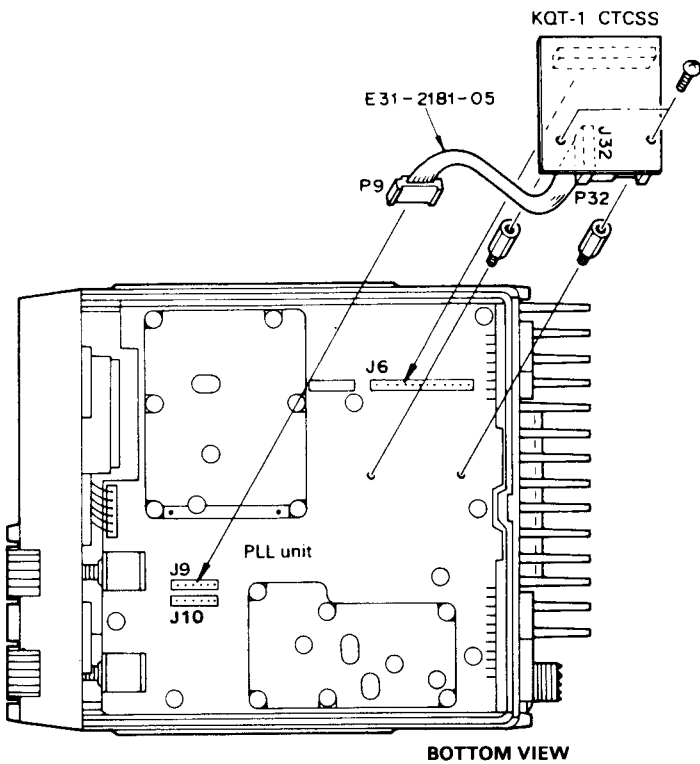

Fig. 3-3
7. Conversion to 16CH with KQT-1, -2 (Fig. 3-3, 3-5)
9. Conversion to 32CH with KQT-1, -2, (Fig. 3-3, 3-5)